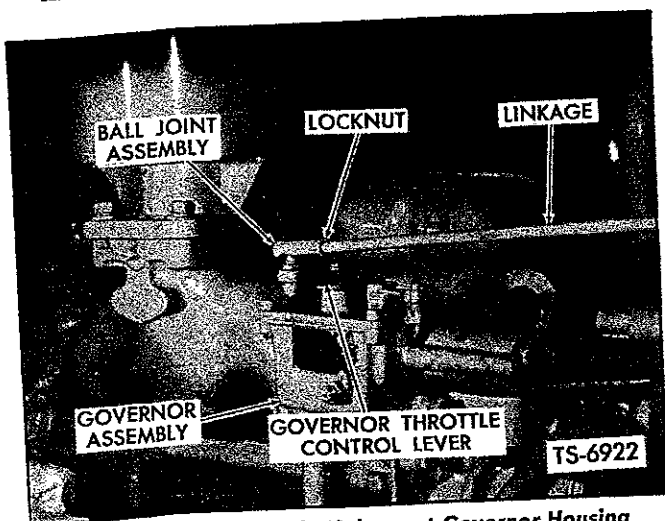

Fig. 17. Adjust Throttle Linkage at Governor Housing
3. Rotate governor throttle control lever to extreme forward (full throttle) position and adjust clevis to obtain a slip fit in governor throttle lever just before accelerator bottoms. If a slip fit cannot be obtained adjust clevis at lower bell crank arm. See Figures 17 and 18.